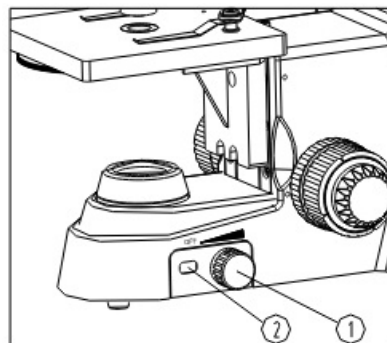

Fig. 7
1. Turn on the power by rotating the light adjustment knob① and adjust light intensity by rotating the knob until the illumination is comfortable for observation. Rotate the light adjustment knob in clockwise direction to raise the voltage and brightness. Rotate the light adjustment knob in a counterclockwise direction to lower the voltage and brightness (see Fig.7).